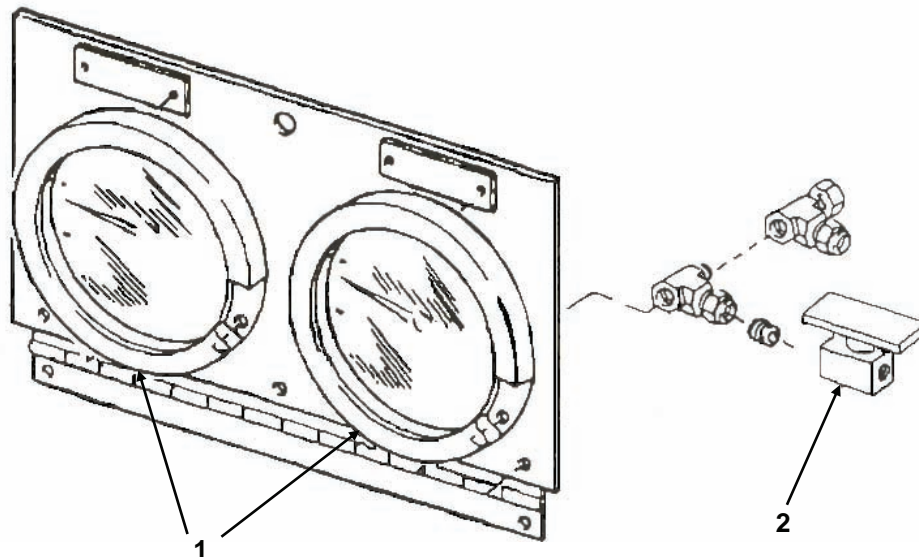

Figure 11. Control Panel Gauges Drain Valves (Model ROWPU-1 Only)
Control Panel Gauges Drain Valves (Model ROWPU-1 Only) (Figure 11). In order to prevent freezing of gauges (1) used on top of the control panel, Model ROWPU-1 has been equipped with valves (2) which are used to drain fluids from gauges and gauge tubing prior to shutdown or storage of the unit in cold or freezing conditions. Model WTA-060 does not have these valves.